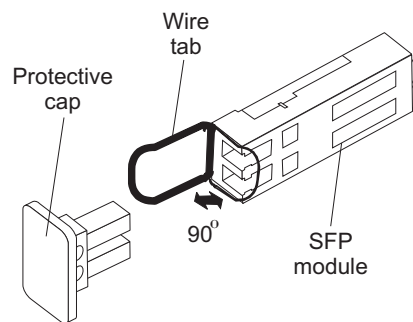

Figure 15. SFP module and protective cap
2. Remove the protective cap from the SFP module, as shown in Figure 15. Save the protective cap for future use.
2. If necessary, remove the protective cap from the SFP module, as shown in Figure 15 on page 44. Save the protective cap for future use.